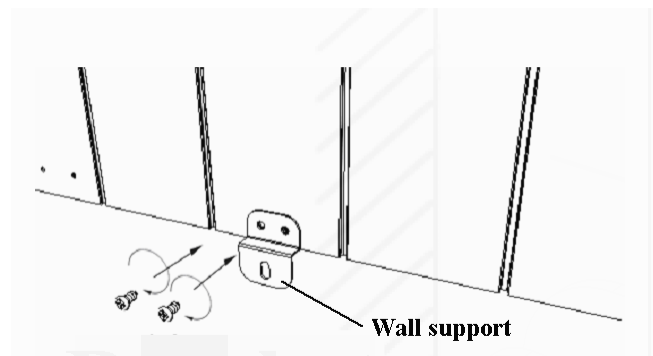

Figure 4
- Screw the wall support onto the unit by two holes on the bottom rear of the unit (as shown in figure 4). This operation must be performed when the heater is installed on the wall. So that the plate with a single hole is leaning against the wall.